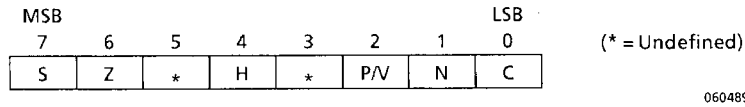

Figure 3.2 Flag Register Configuration
##### (b) Flag register (F) (see Fig. 3.2)